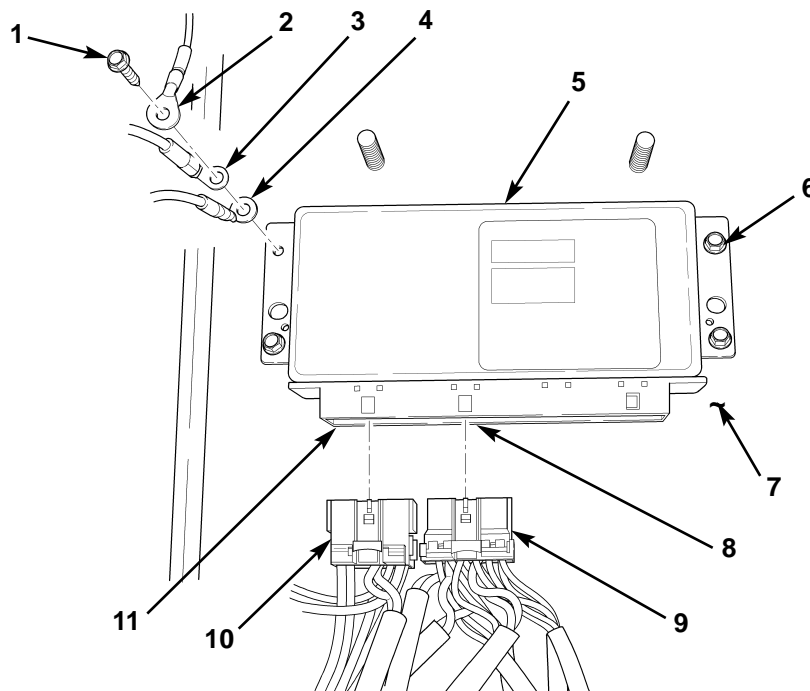

Figure 2. Installing ABS ECU.
1. Install ABS ECU (figure 2, item 5) on firewall (figure 2, item 7) with three screws (figure 2, item 6).
2. Connect three black ground wires (figure 2, items 2, 3, and 4) to ABS ECU (figure 2, item 5) and firewall (figure 2, item 7) with screw (figure 2, item 1).
3. Connect ABS ECU harness connectors (figure 2, items 9 and 10) to ABS ECU receptacles (figure 2, item 8 and 11).